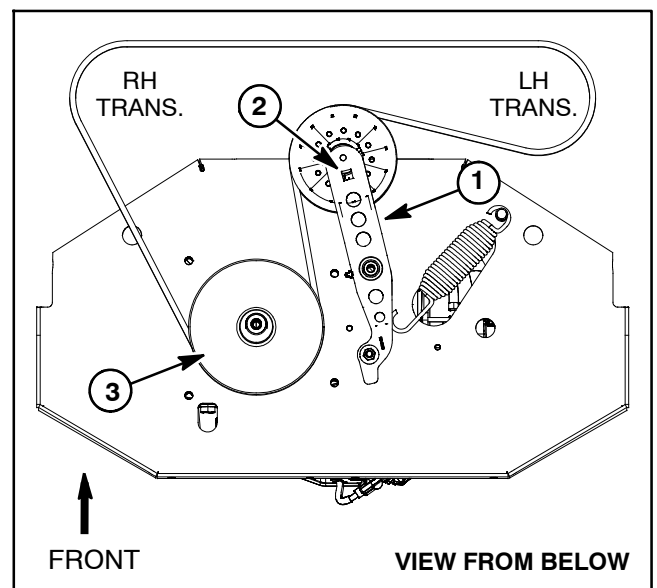

Figure 11
11. Remove transmission drive belt from engine pulley (Fig. 11):
12. Loosen two (2) set screws (item 5) on the drive pulley hub to allow pulley removal from the engine shaft. Slide pulley from the shaft. Locate and retrieve square key from the engine shaft.
13. Remove four (4) cap screws and belleville washers that secure the engine to the frame. During removal, note orientation of belleville washer (item 9) for assembly purposes.
6. Install transmission drive belt to engine pulley (Fig. 11):